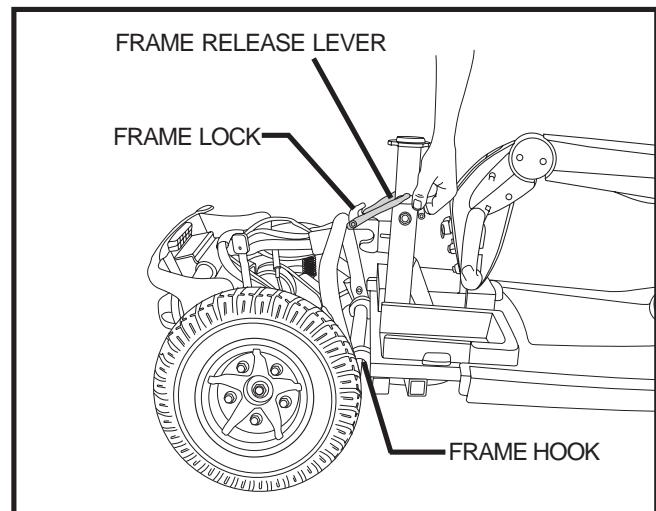

Figure 25. Frame Release
2. Lift up on the frame release lever. See figure 25.